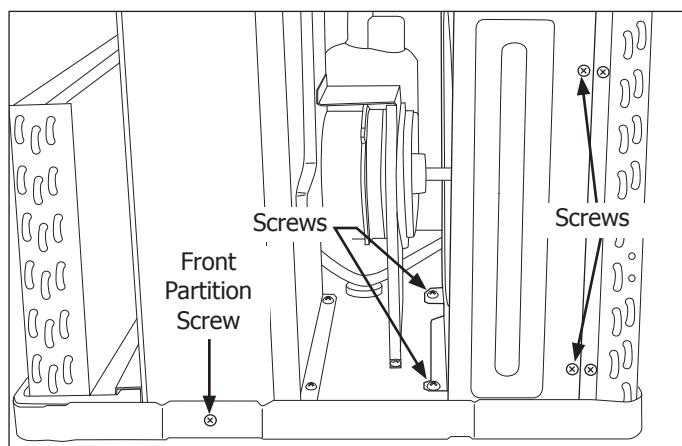

Figure 4-47.
7. Extract the two screws from each side of the condenser securing the condenser fan shroud to the outer edges of the condenser. Extract the two screws securing the condenser shroud to the unit base tray. Remove condenser fan shroud from unit. (See Figure 4-47)